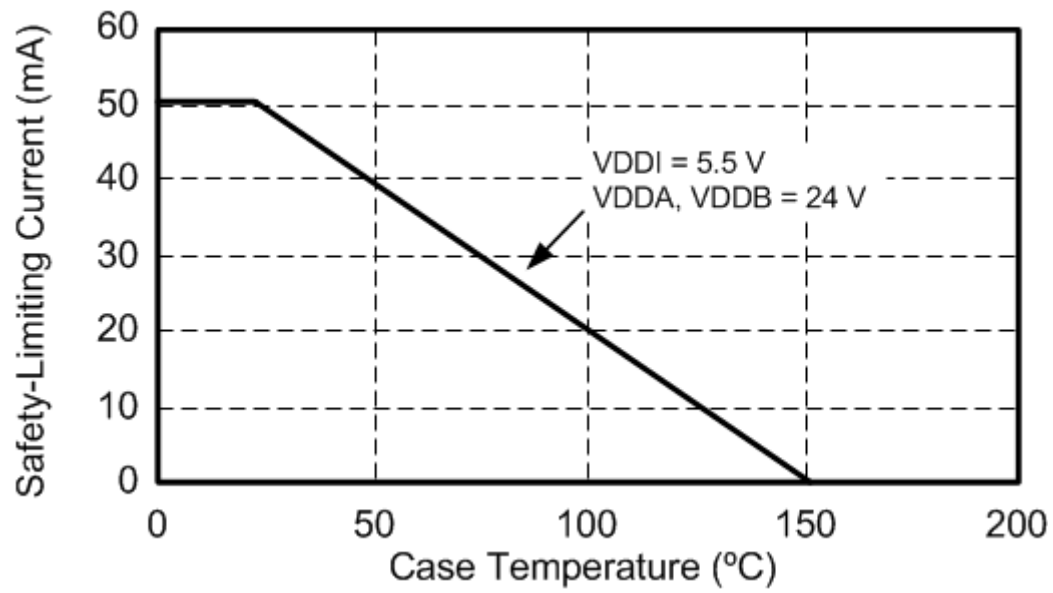

Figure 4.4. WB SOIC-16, NB SOIC-16 Thermal Derating Curve, Dependence of Safety Limiting Values with Case Temperature per VDE 0884-10
- Maximum value allowed in the event of a failure. Refer to the thermal derating curve in [Figure 4.4 WB SOIC-16, NB SOIC-16 Thermal Derating Curve, Dependence of Safety Limiting Values with Case Temperature per VDE 0884-10](#) on page 24.